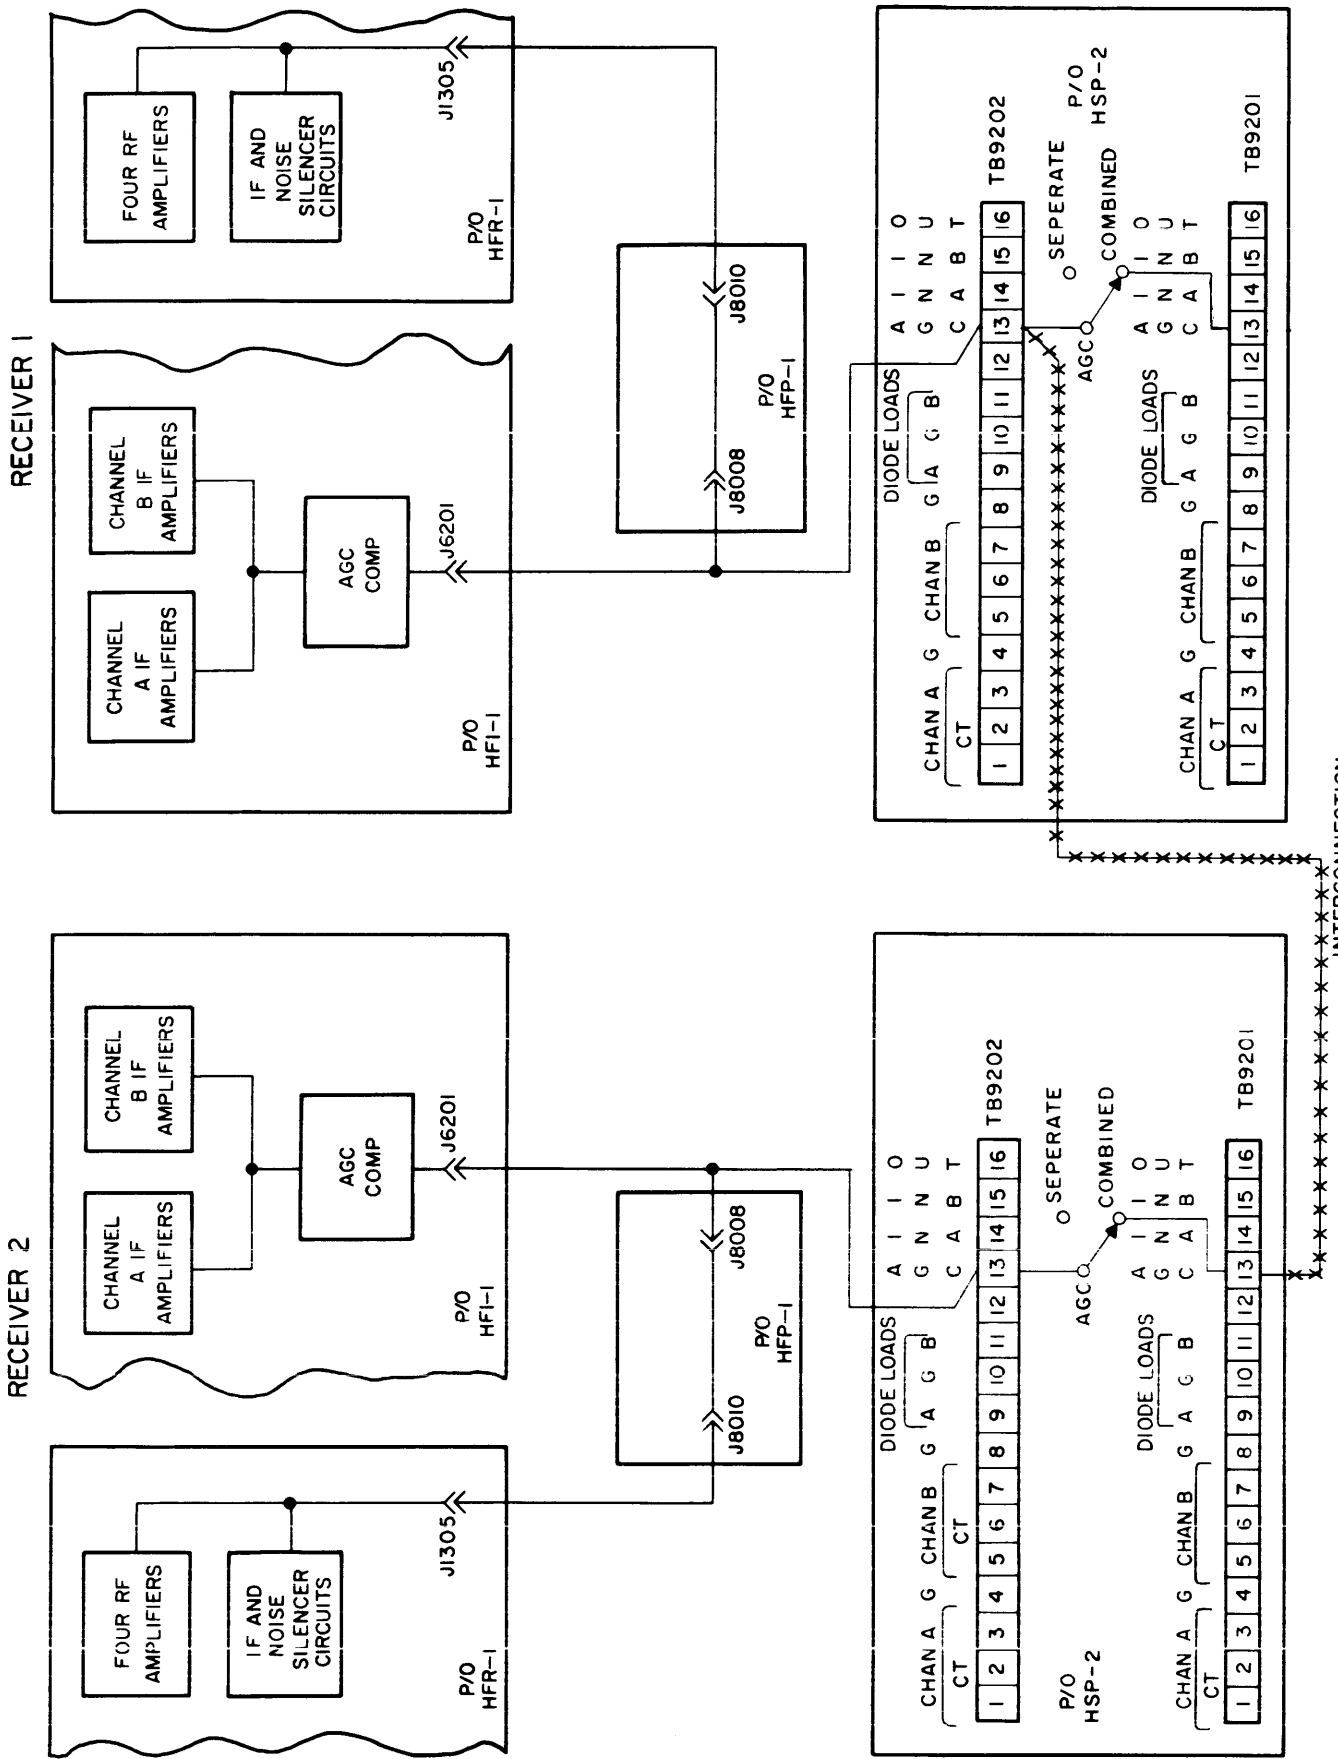

Figure 2-4. Cabling Interconnection Diagram, Dual Receiver (Diversity Operation), DDR-5B
(3) DUAL RECEIVER (DIVERSITY-SPACE OR FREQUENCY) CABLING CONNECTIONS. - When two complete DDR-5B's are present in a given operation, the interconnection of their agc lines as shown in connection diagram figure 2-4 enables either space-diversity or frequency-diversity operation.